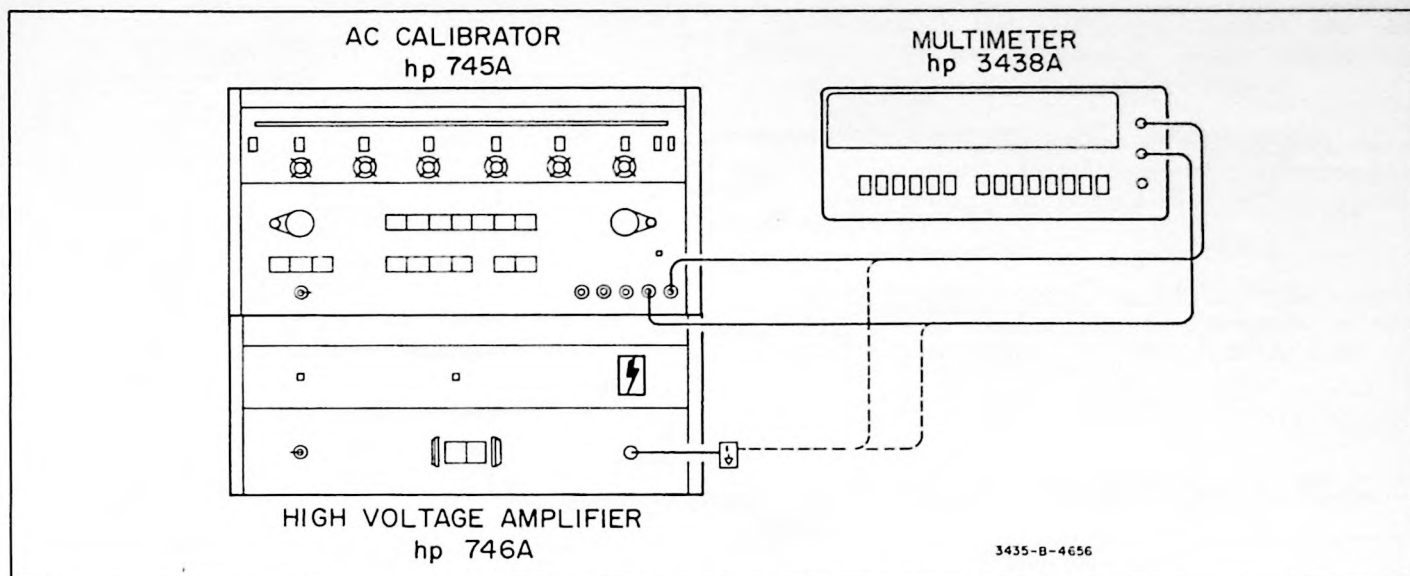

Figure 4-2. AC Voltage Accuracy Test.
- Connect the AC Calibrator as shown in Figure 4-2.